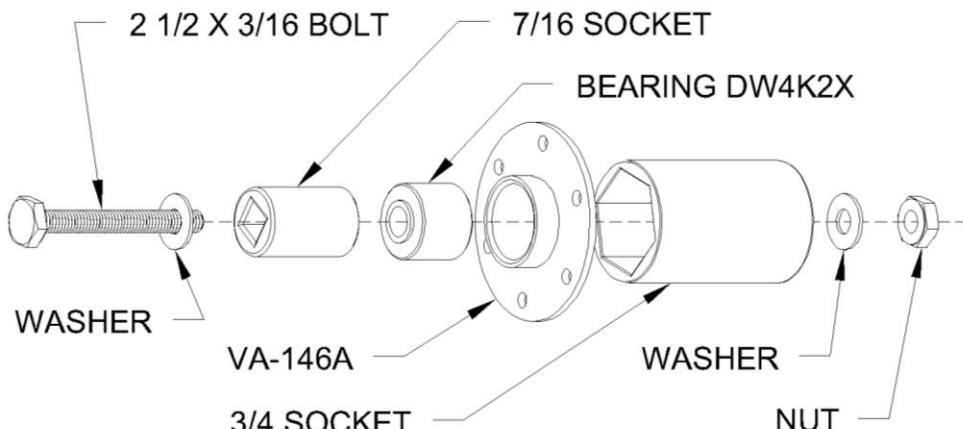

Figure 16: Extracting the DW4K2X bearing
10. Pressing out the bearing: Position the sockets on each side of the bearing then use the nut, washer and bolt inserted through both sockets and the bearing. Tighten the nut on the bolt to press the bearing towards the large socket. See **Figure 16**.